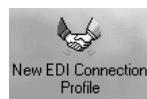

Figure 4-21. New EDI Connection Profile Button
- Click the **New EDI Connection Profile** button (Figure 4-21) in the listbar.